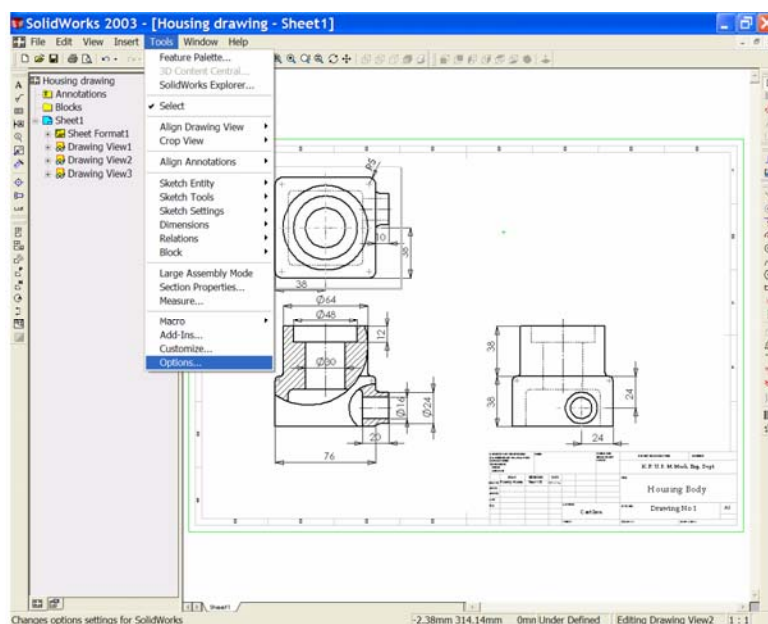
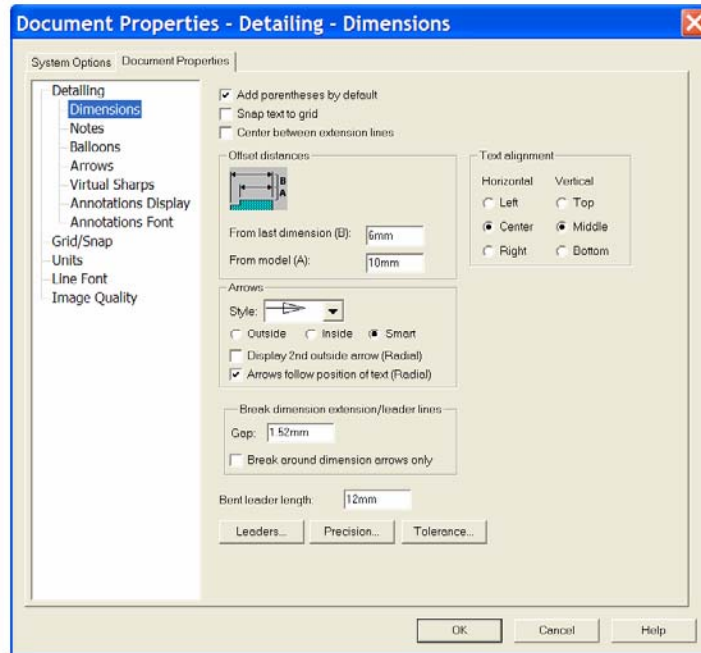

Figure 38
Figure 39
34. The dimension font, font size, arrow style and arrow size may be changed globally. From the 'Tools' drop down menu choose 'Options...', See Figure 38. The System Options dialog box opens, usually at 'General'. Select the 'Document Properties' tab. Under 'Detailing' select 'Dimensions'. See Figure 39. In the 'Arrows' area, choose the down arrow to view and select an arrow style.